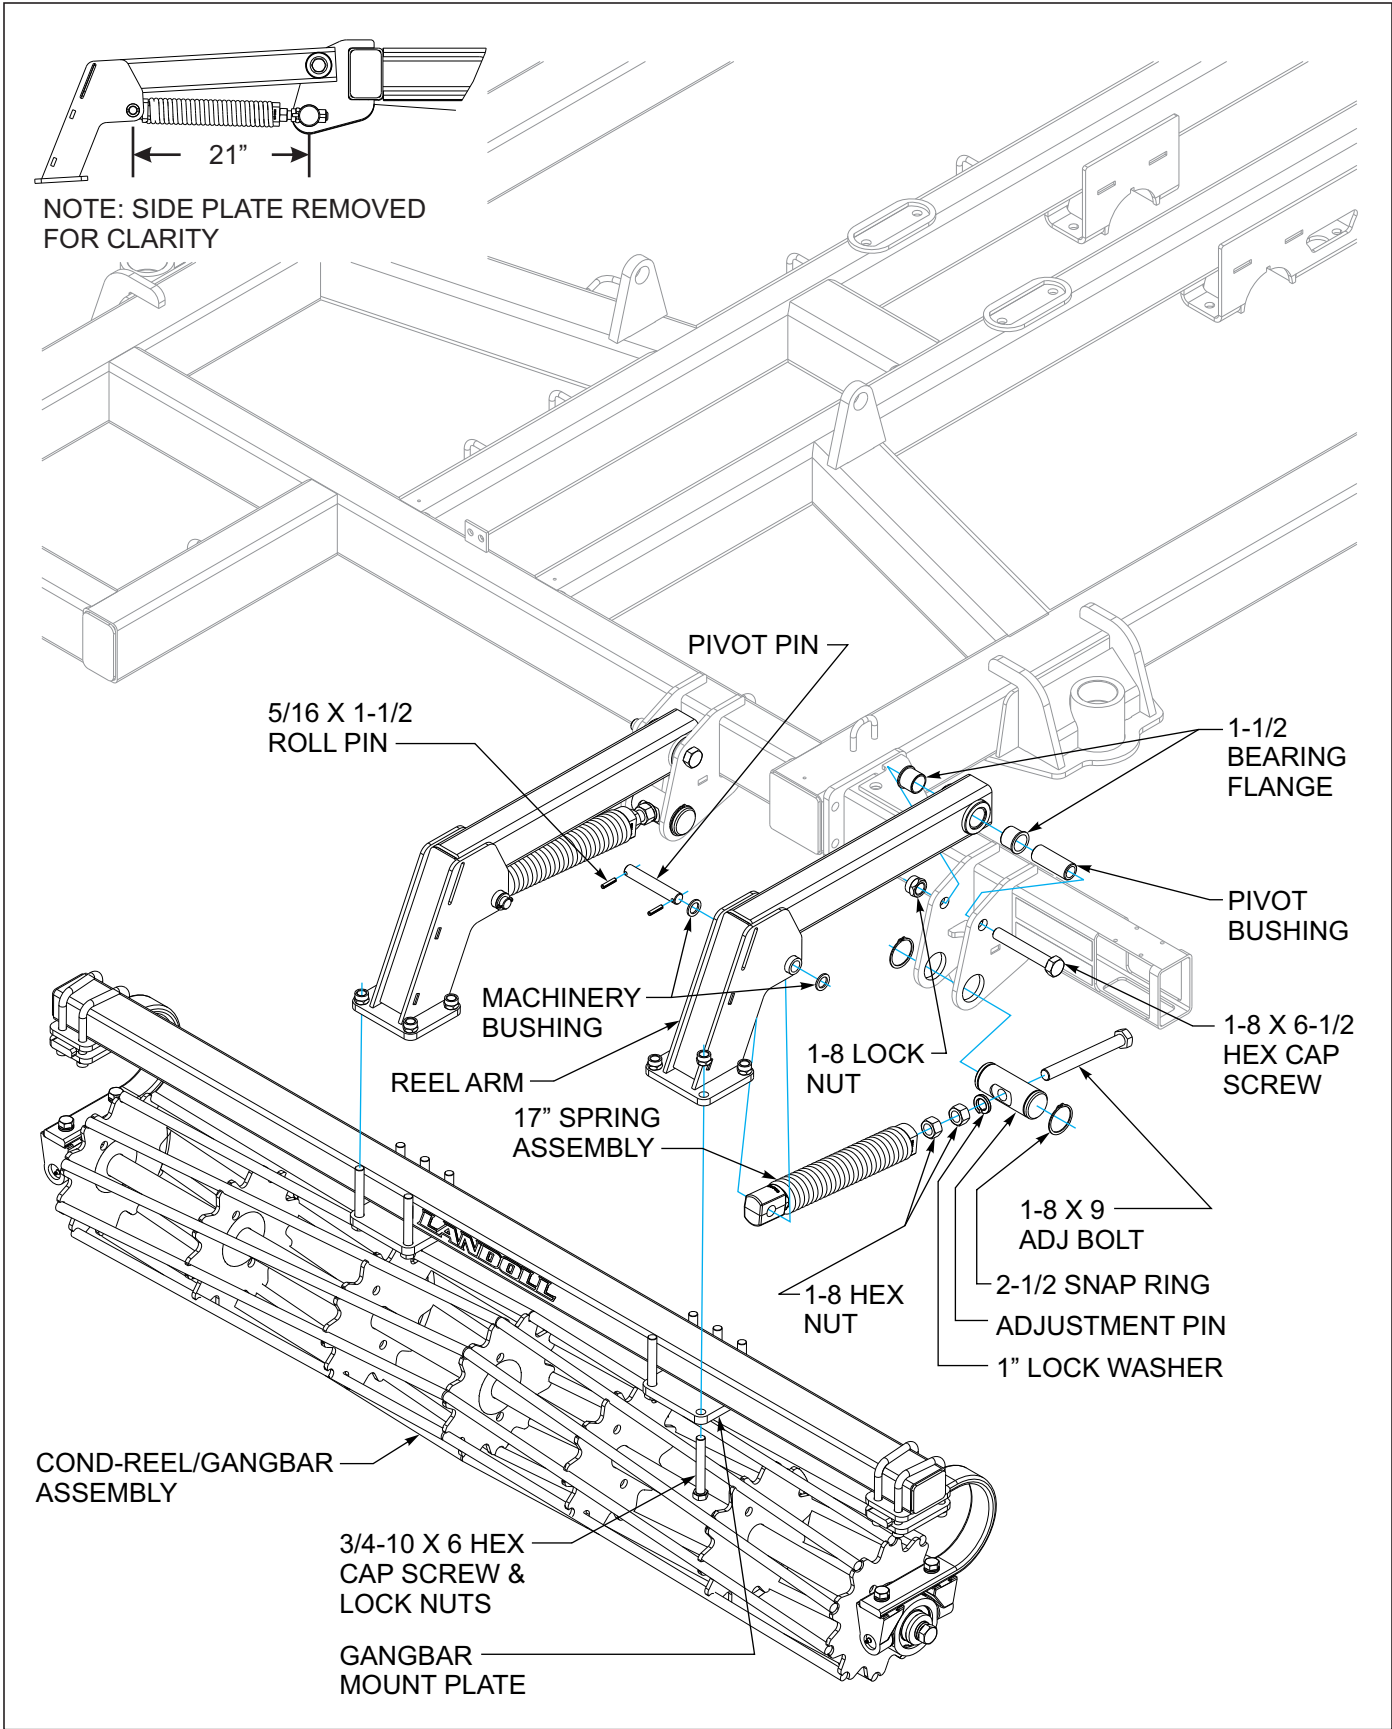
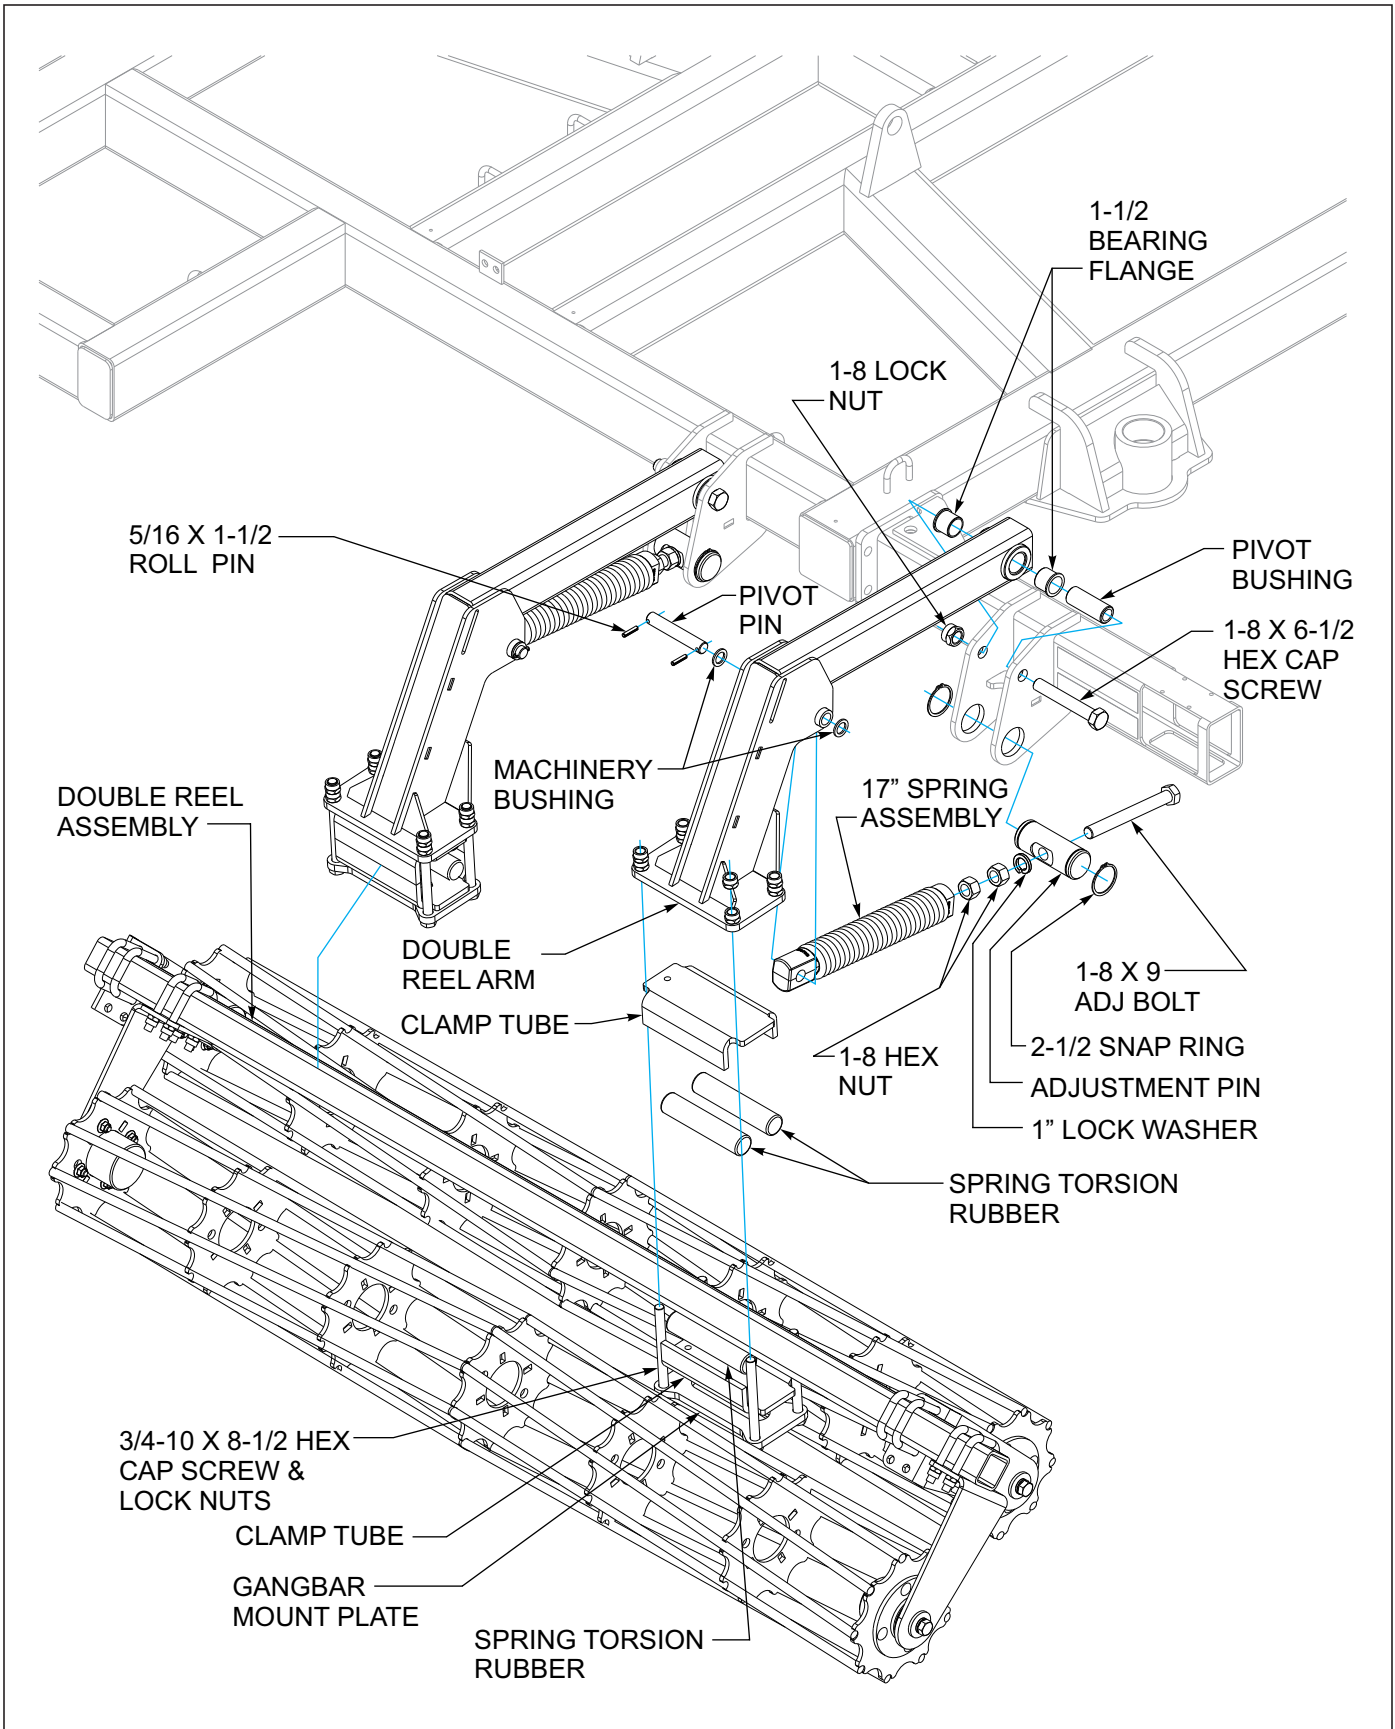
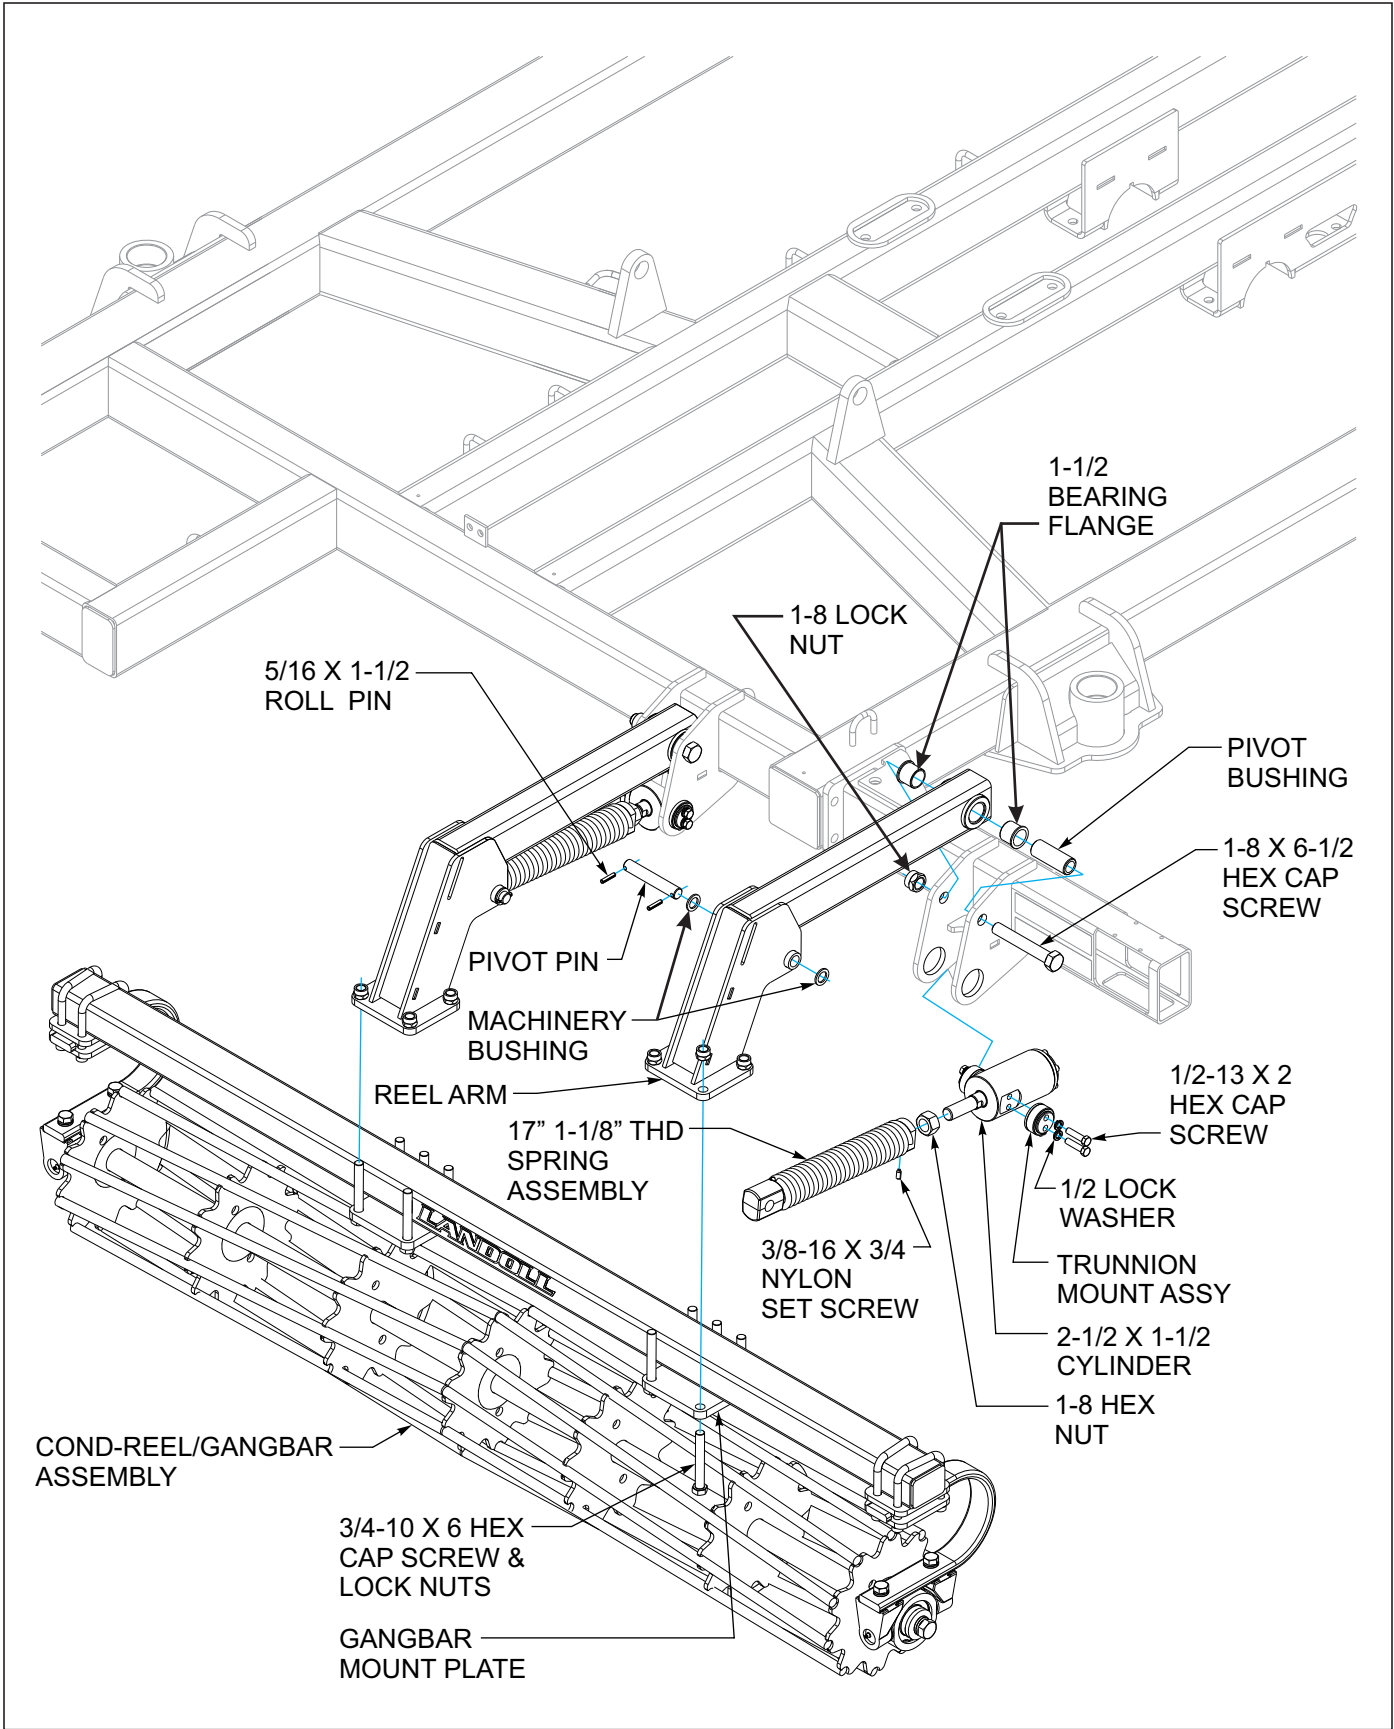
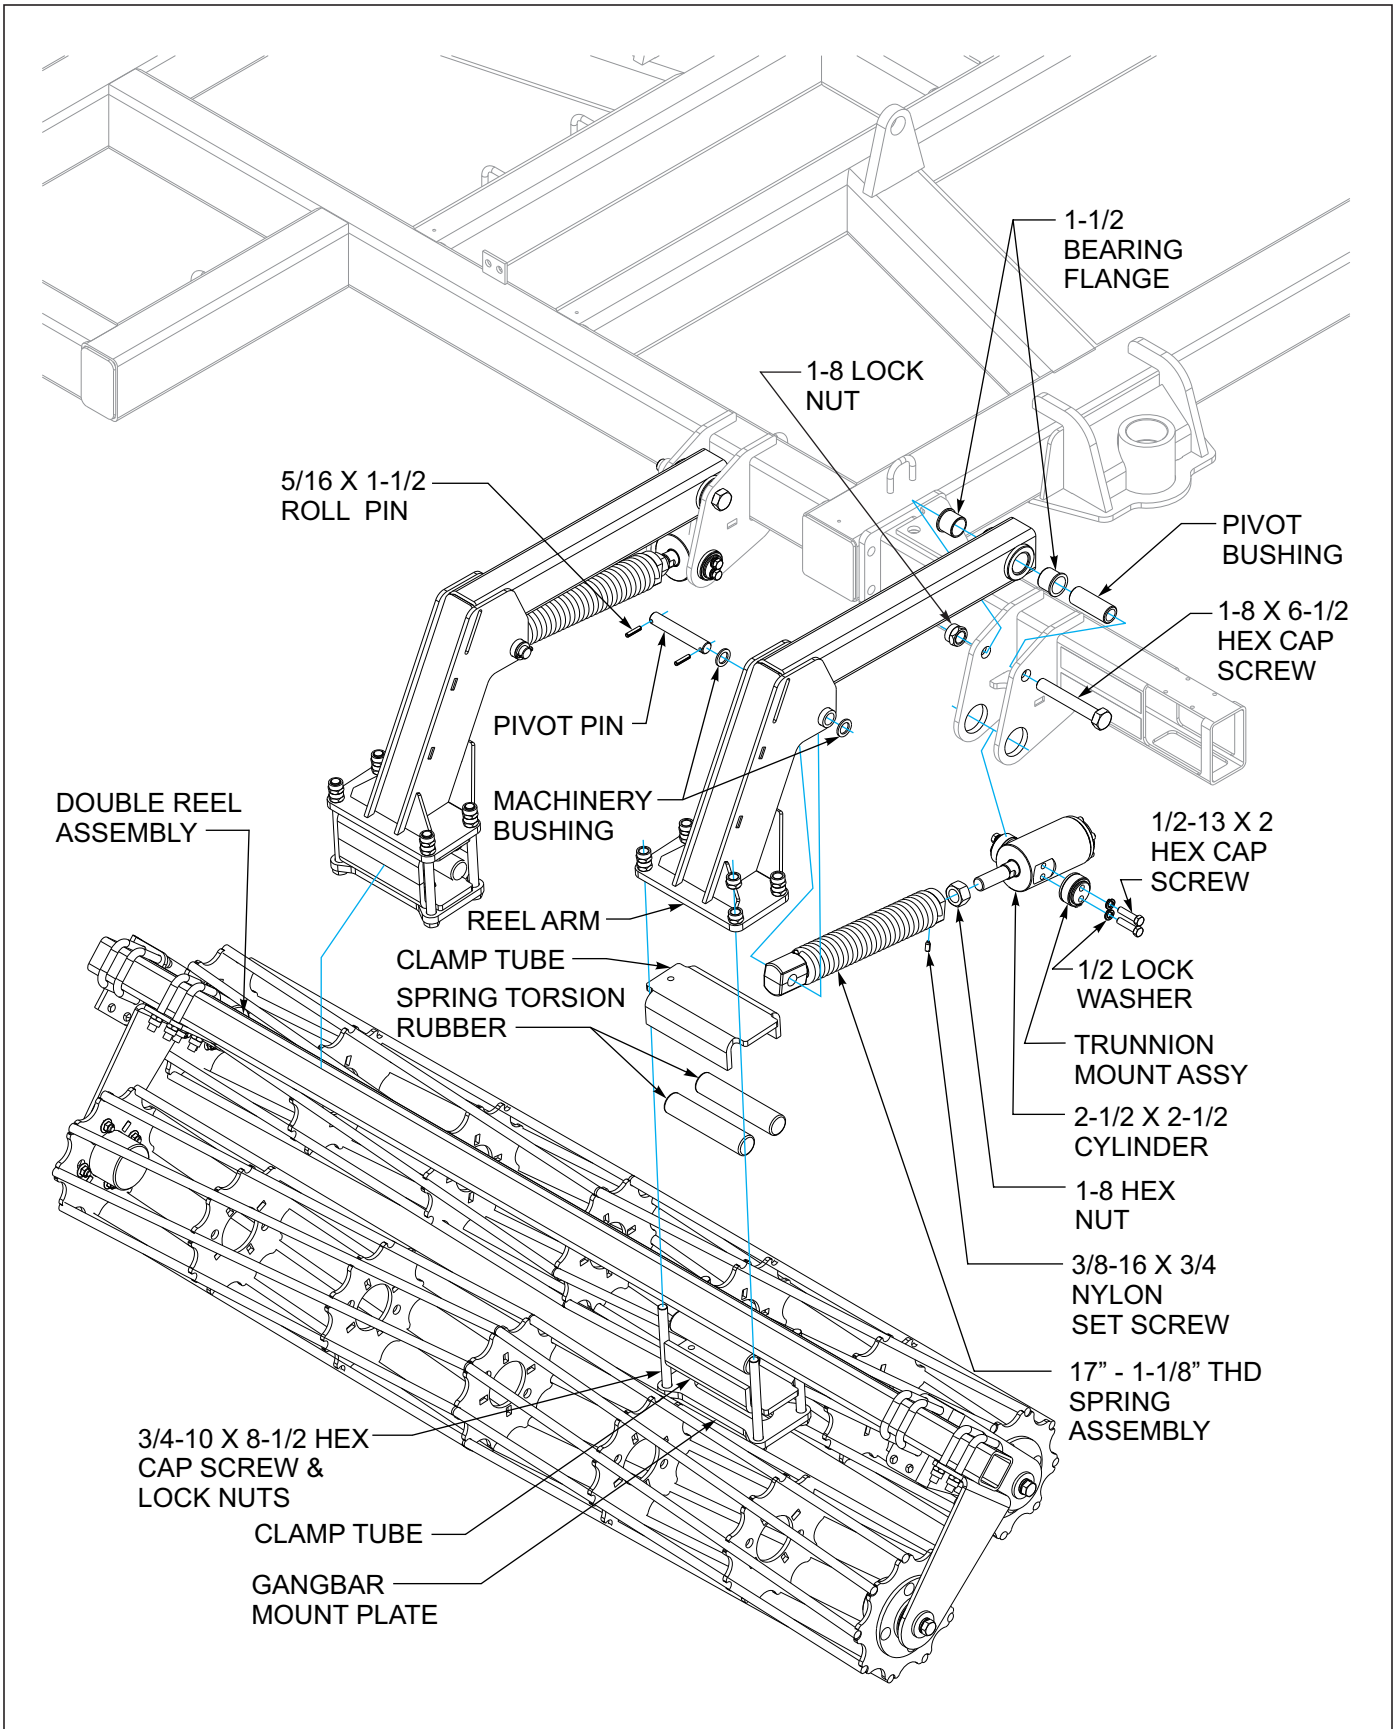

Figure 3-16: Conditioner Single Reel Installation 7510-14'
Figure 3-17: Conditioner Double Reel Installation 7510-14'
Figure 3-18: Hydraulic Conditioner Reel Single Installation 7510-14'
Figure 3-19: Hydraulic Conditioner Double Reel Installation 7510-14'
Refer to *Conditioner Single Reel Installation* shown in **Figure 3-16** for single reel installation or *Conditioner Double Reel Installation* shown in **Figure 3-17** for double reel installation.
1. Slide the adjustment pin through the rear plates of center and wing frames, secure with (2) 2-1/2 snap rings.
2. Assemble the 1-8 x 9 adj bolt through adjustment pin on frame, 1" lock washer, (2) 1-8 hex nuts, and 17" heavy spring assembly.
5. Assemble 17" heavy spring assembly to reel arm using 1" pivot pin, and 5/16 x 1-1/2" spring slotted pins. Set pin centers to 21" dimension as shown in **Figure 3-16**.
6. Attach single reel/gang bar assembly to reel arms using gang bar mount plate, 3/4-10 x 6 hex head cap screws and double hex lock nuts as shown in **Figure 3-16**. Refer to pages 2-4 in "Specification Section" for single reel gang bar placement locations.
7. Attach double reel/gang bar assembly to reel arms using gang bar mount plate, (2) clamp tubes, (4) spring torsion rubber, secure with 3/4-10 x 8-1/2 hex head cap screws and double hex lock nuts as shown in **Figure 3-17**. Refer to pages 2-5 thru 2-6 in "Specification Section" for single reel gang bar placement locations.
Refer to *Hydraulic Conditioner Single Reel Installation* shown in **Figure 3-18** for single reel installation or *Hydraulic Conditioner Double Reel Installation* shown in **Figure 3-19** for double reel installation.
The 209666 (7510-32' hydraulic double round reel) and 209676 (7510-32' hydraulic flat reel) on center section uses two of the *Hydraulic Conditioner Double Reel Installation* arm assemblies, Refer to **Figure 3-18** and one *Conditioner Double Reel Installation* arm assembly in center position, Refer to **Figure 3-17**. for arm assemblies. Refer to **Figure 2-1 - 2-3** for proper arm placement.
3. Attach single reel/gang bar assembly to reel arms using gang bar mount plate, 3/4-10 x 6 hex head cap screws and double hex lock nuts as shown in **Figure 3-18**. Refer to **Figure 2-1** for single reel gang bar placement locations.
4. Attach double reel/gang bar assembly to reel arms using gang bar mount plate, (2) clamp tubes, (4) spring torsion rubber, secure with 3/4-10 x 8-1/2 hex head cap screws and double hex lock nuts as shown in **Figure 3-19**. Refer to **Figure 2-1** for single reel gang bar placement locations.